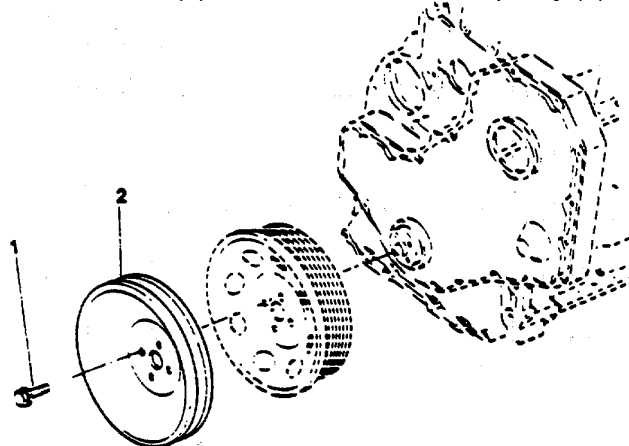

FIGURE 3-48. Crankshaft Pulley.
- c. Inspect the pedestal and shaft. Measure the shaft diameter (FIGURE 3-48).
- a. Remove crankshaft pulley. (FIGURE 3-48)
- (1) Remove four hex head screws (1) and remove crankshaft pulley (2)
Repair at this level of maintenance is by replacement of: gaskets (4, 10, 12, 2) seal (1, FIGURE 3-48), engine timing pin (12) and retainer packing (11).